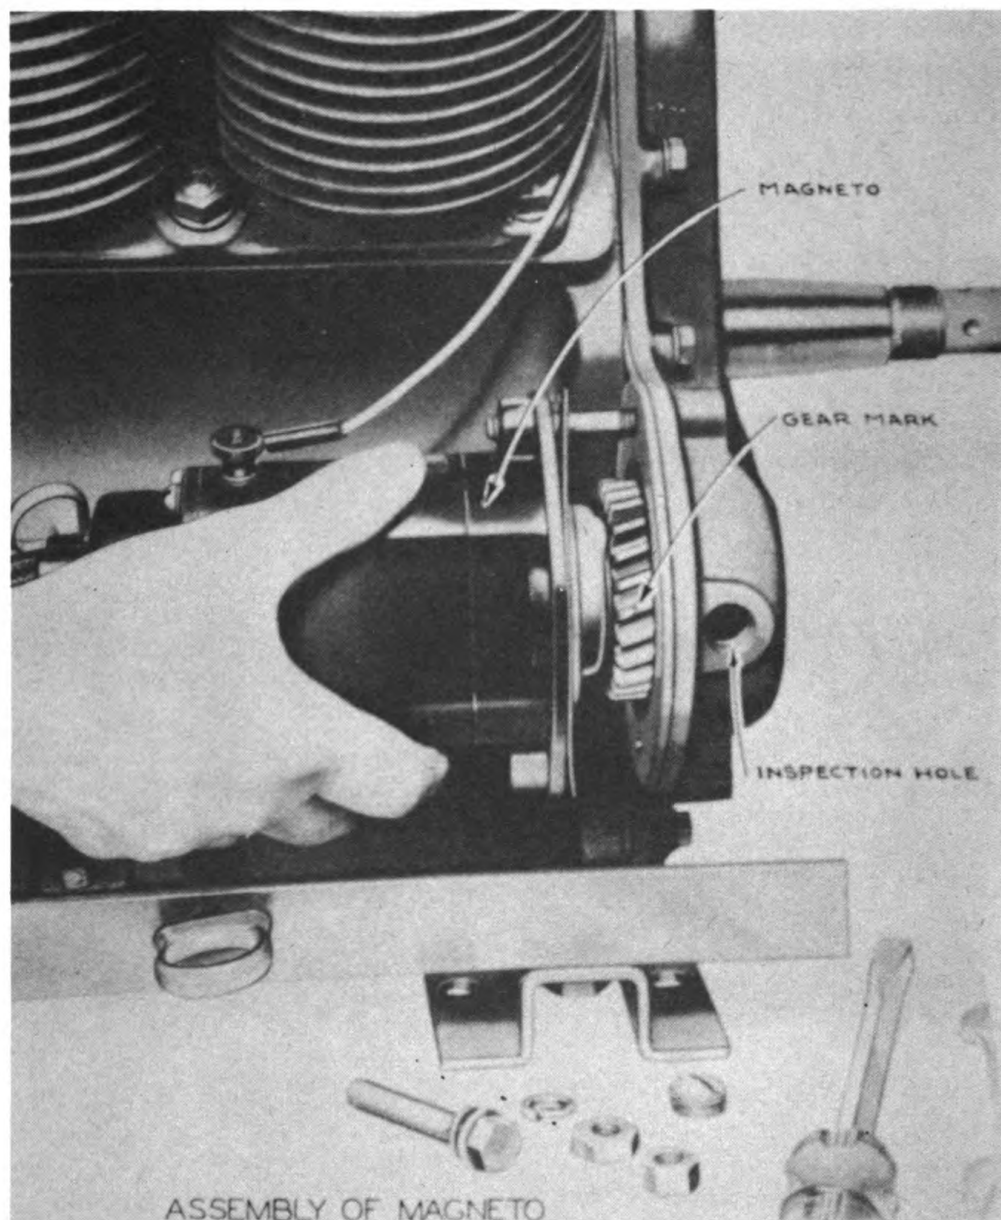

Fig. 70
**INSTALLATION OF MAGNETO**—The magneto must be installed so that it is properly timed to the gear train of the engine. The magneto gear is marked with an "X" on the outer edge of one tooth. (Fig. 70)